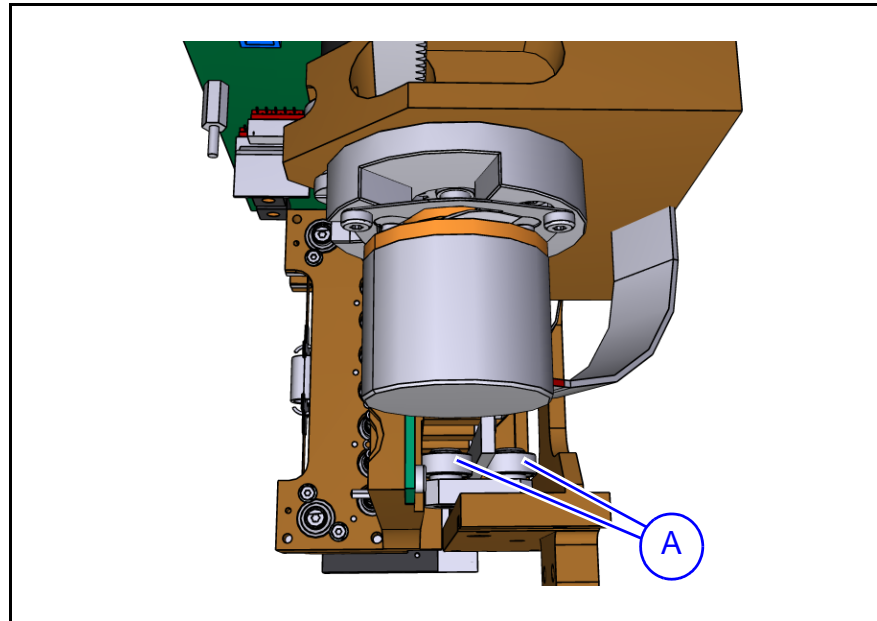

Figure 16-28. HYDRA (top view).
- Use a Q-tip to clean and lubricate (K-012-0098 GREASE OKS 270) the guide bearings, ('A' in Figure 16-28).
- Use a Q-tip to clean and lubricate (K-012-0098 GREASE OKS 270) the gear rack ('A' in Figure 16-28) and latch fingers ('B').